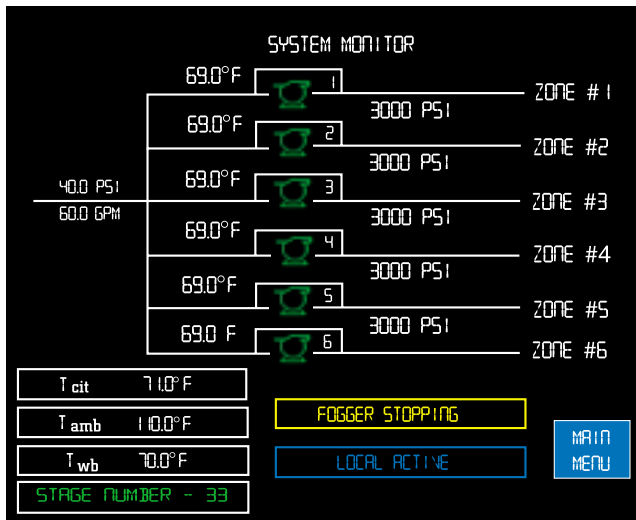

Figure 3
Fig 3 and Fig 4 below represent (2) of many screens available on the user-friendly operator interface panels to monitor system performance and perform system diagnostics.